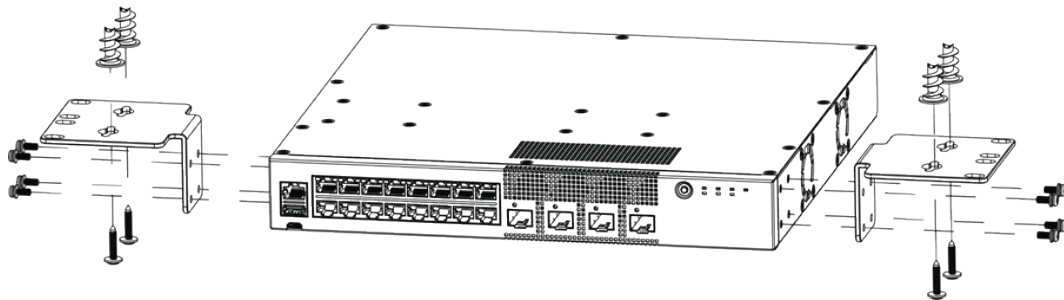

Figure 51: Under the Table Mount: Attaching larger mounting ears to 5320-16P models
4. Using rack mount screws, attach a mounting ear to the left side of the switch, at the front end. Figure 51 on page 71 shows the attachment of the screws.